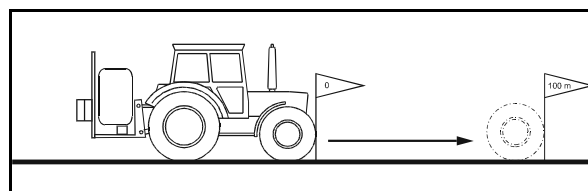

Fig. 61
2. Mark the starting and the ending point (Fig. 61).